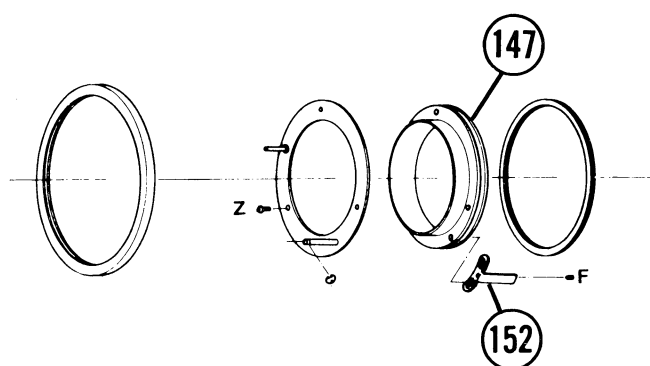

Fig. 64
13.1.1 Prepare the Konica Mount for use with the Tool by removing three screws which attach the F/Stop Setting Ring (150) (not shown) to the Konica Mount (Fig. 64).